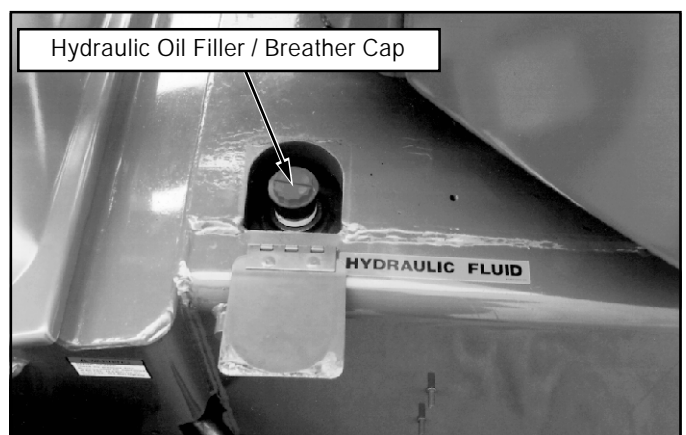

Figure 9: Hydraulic Oil Filler / Breather Cap
3. Lift flap located on top of chassis right side (see figure 9).